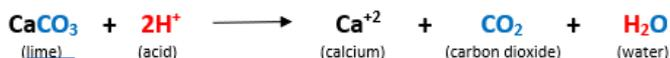
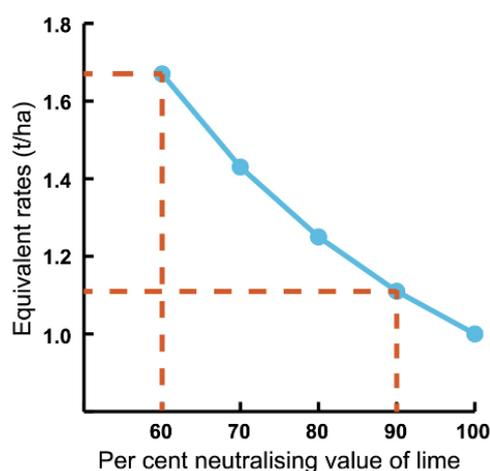
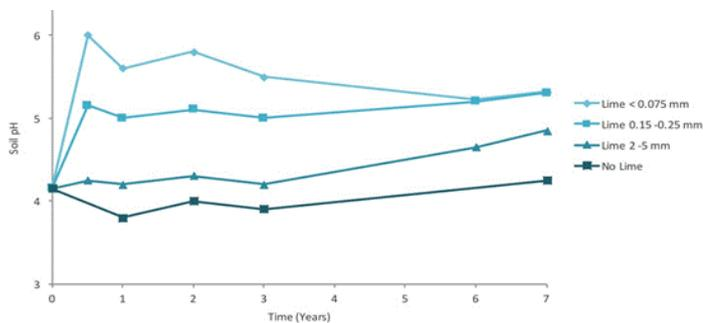
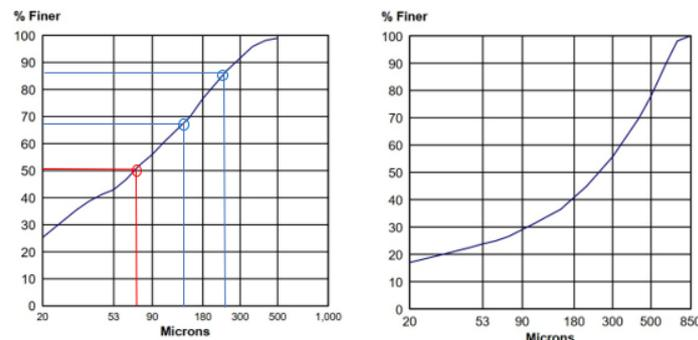

Figure 1: Lime – acid reaction
Figure 2: NV vs. required lime rates
Figure 3: The change in pH over time using different lime particle sizes
Figure 5: Mean particle size distribution of Riverton Lime (left) and Murgon Lime (right)
To neutralise the hydrogen ions (acid), it is advised to use either lime or dolomite. Lime is calcium carbonate ($CaCO_3$). Dolomitic limes contain magnesium carbonate ($MgCO_3$) in addition to the calcium carbonate. Good quality lime is generally ~40% calcium (Ca) with the rest being made of carbonate (CO_3). Importantly, when neutralising acidity and increasing soil pH, it's not the calcium component at work, rather it's the carbonate component. The calcium is just a bonus that will increase soil calcium levels and improve soil structure. The carbonate fraction of the lime reacts with the acid in the soil (H^+) to give calcium, carbon dioxide (CO_2) and water (H_2O), as seen in Figure 1. Based on this reaction, the key metric for pH correction really should be tonnes of carbonate per ha, as the more carbonate applied per hectare the more acidity (H^+) is neutralised or 'mopped' up.
Neutralising Value (NV) has become a standard measure of the lime's ability to neutralise acidity (Figure 1) and is a proxy for its purity. The purer the lime is, the higher its NV. Pure calcium carbonate is taken as the standard with a NV of 100%. As an example, Figure 2 shows that approximately 1.7t/ha of 60% NV lime is required compared to 1.1t/ha of 90% NV lime to achieve the same pH change. While some limes can have NVs in the 50 – 70% range, the macadamia industry is lucky to have access to good quality limes from the Graymont quarries, which all have limes with NVs above 97%.
The second part of the lime quality debate is particle size. The size of the lime particles determines how quickly the lime can neutralise acidity, as lime with a higher proportion of finer particles has a larger surface area to react with the acid in soil. Therefore, a finer lime will reduce soil acidity quicker than a coarser lime. A 2015 study by Southern Farming Systems illustrates the change in pH over time using **equal rates**, but different lime particle grades. The study, illustrated in Figure 3, demonstrates that the finest lime (<0.075mm or 75 micron) produced the fastest reaction; however, over six years this initial advantage was negated by the second grade (0.15 – 0.25mm). The third grade (like most third grades I've played in) reacted much slower than the higher
Bulk aglime is made up of a range of particle sizes. To find out how fine your lime is, reputable suppliers will provide a technical data sheet specifying mean particle size distribution. Figure 5 below shows the mean particle size distribution of lime from the Riverton and Murgon quarries. When we compare Riverton lime with the particle grades used in Figure 3, we don’t see any particles in the 2-5mm grade, 20% in the 0.15-0.25mm grade and 50% of particles are <0.075mm. Because Riverton lime has such a high proportion of fine particles, the response curve would actually be in between the first grade (<0.075mm) and the second grade (0.15 – 0.25mm) response curves shown in Figure 2.